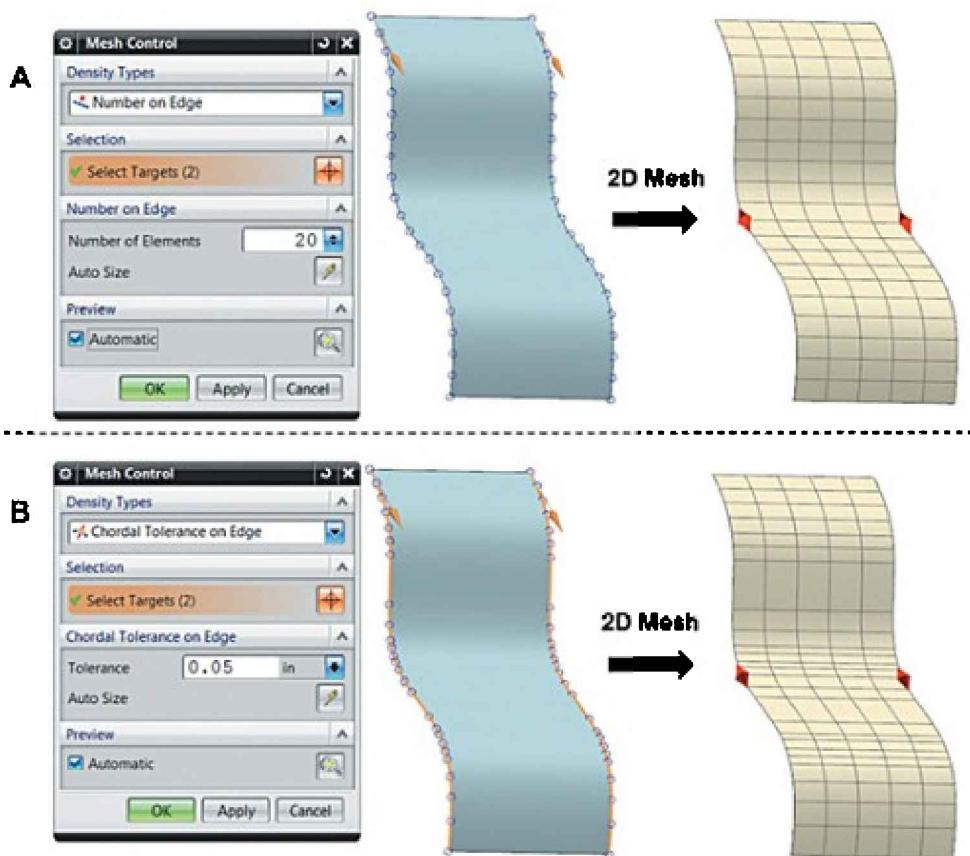

Figure 3.59. Mesh parameters
- Select *Number on Edge* to specify the number of elements along the edge (Figure 3.59, A).
curvilinear objects to control the maximum distance between the curve and its chord (Figure 3.59, B).